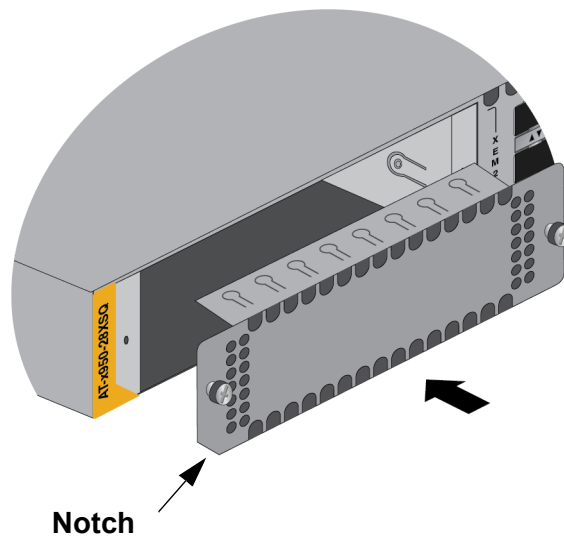

Figure 127. Installing the Line Card Blank Cover
9. Orient the blank cover as shown in Figure 127, with the notch on the bottom left, and slid it into the slot.